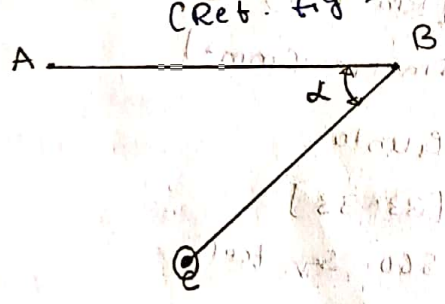

Fig. 2a
For Example: In Figures 2a, 2b, 2c and 2d, A and B are the two control points, whose positions are already known. The position of point C, can be obtained by any one of the following methods.
- a) By measuring a distance say BC and an angle say α (Ref Fig. 2a)